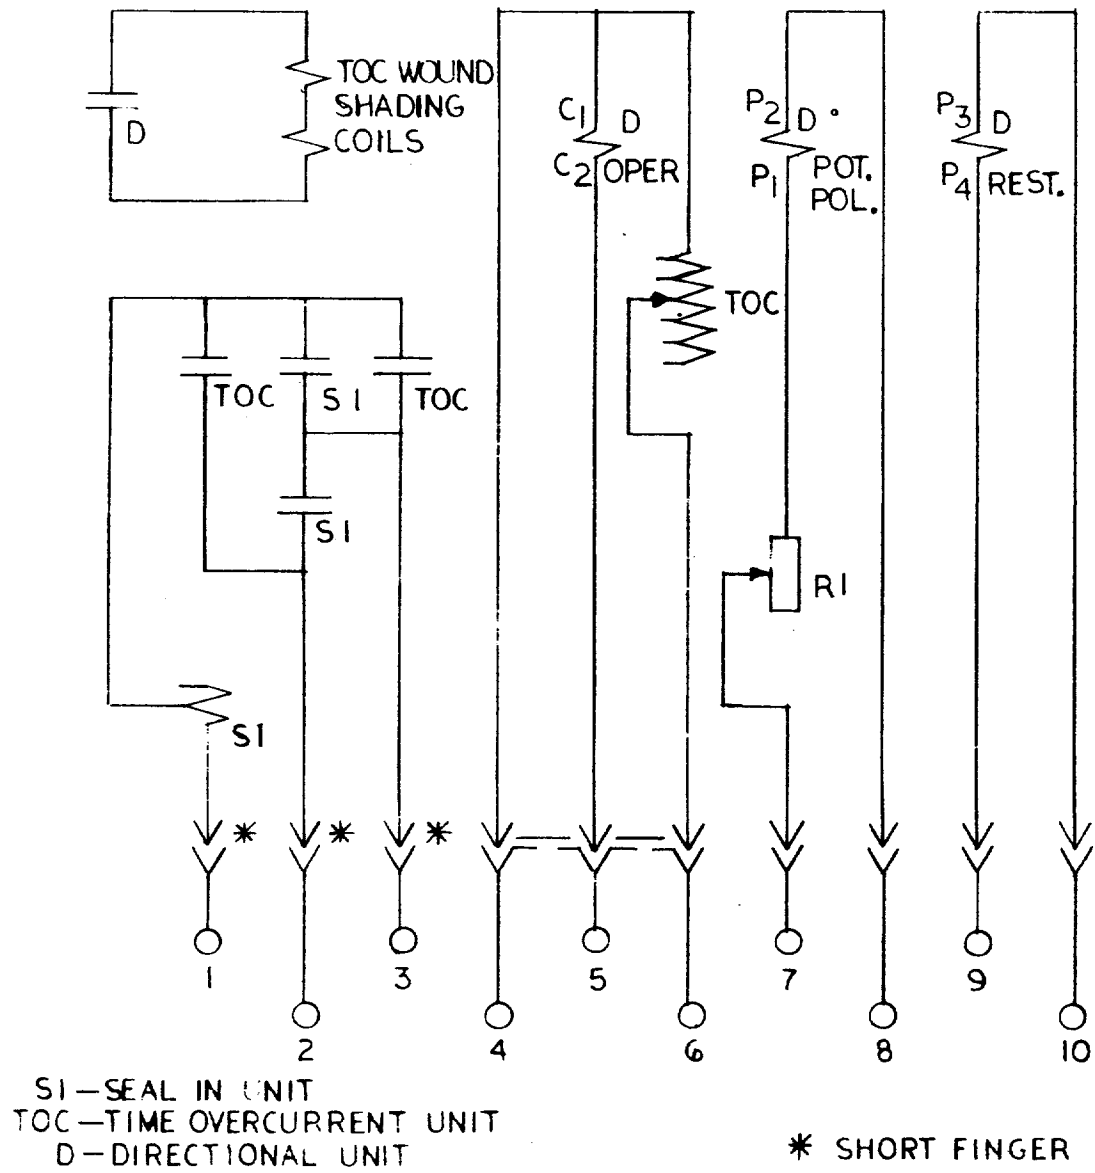

Figure 7 (0273A9195 [1]) Internal Connections for IBCV52M Relays (Front View)
- Figure 7 (0273A9195) Internal Connections for IBCV52M Relays (Front View)